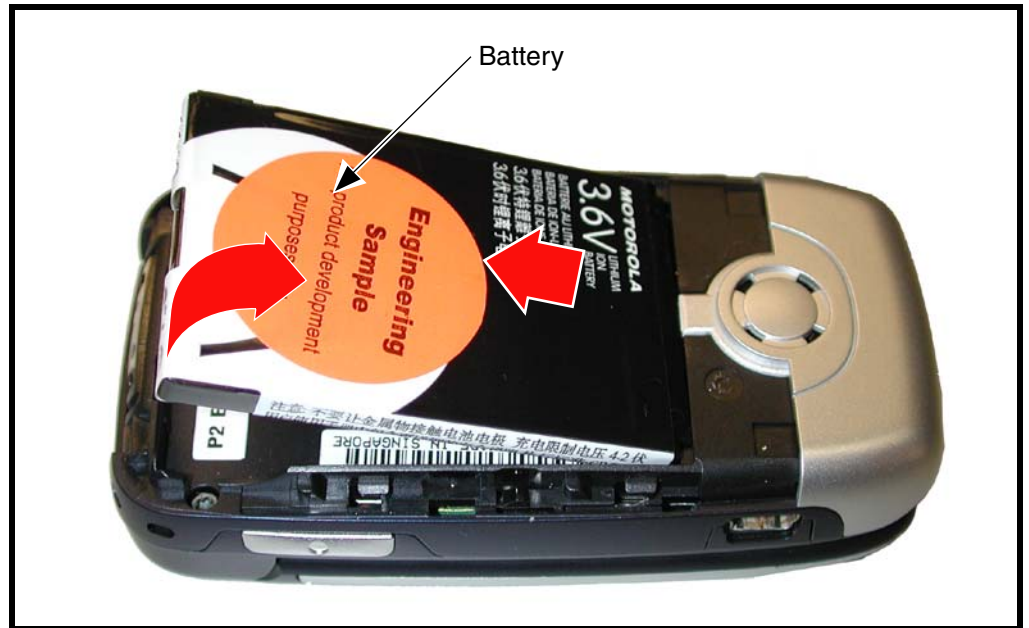

Figure 2. Removing the battery
4. Lift the end of the battery out first, then slide the entire battery from the phone. See Figure 2.